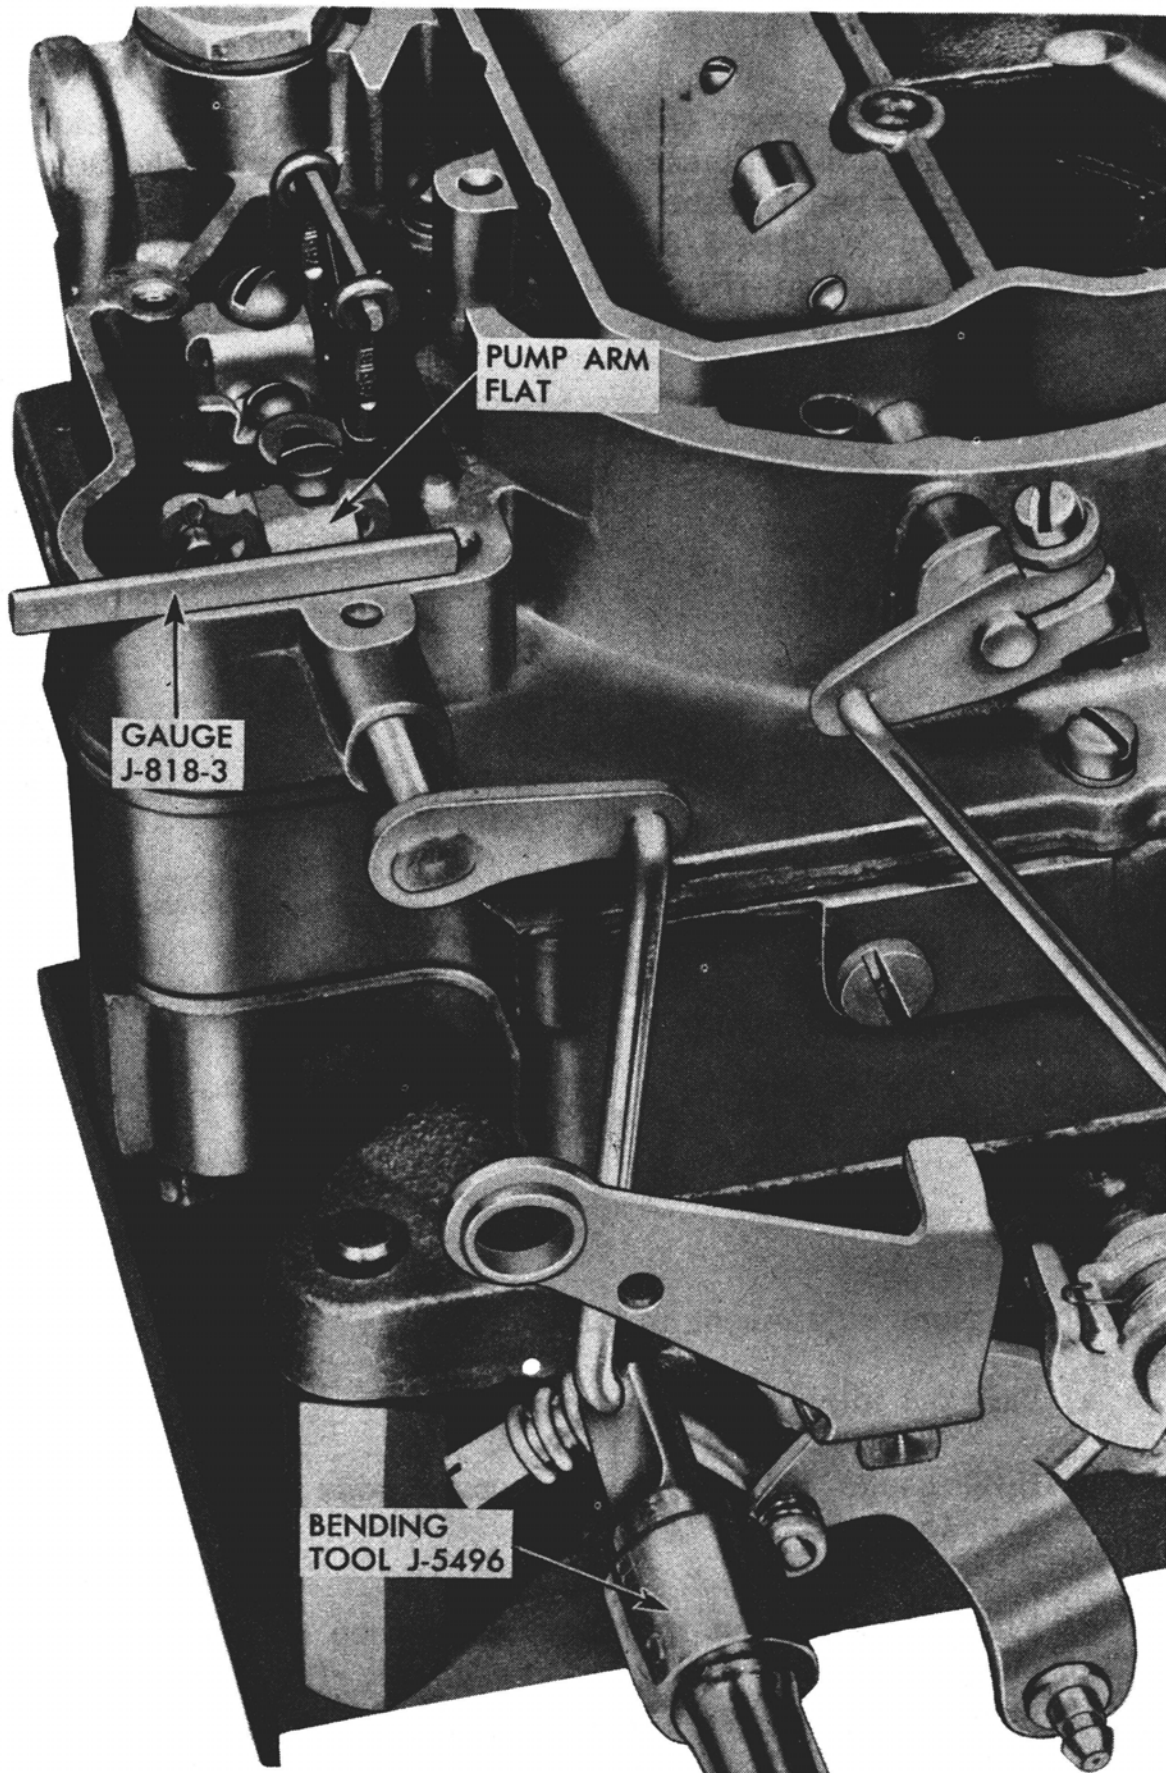

Fig. 15-C Pump Adjustment
- b. Hold gauge J-818-3 on dust cover boss as illustrated in Fig. 15-C.
- c. Visually check the relationship between the top flat of the pump arm (Fig. 15-C) and the gauge. Properly adjusted, these surfaces should be parallel.